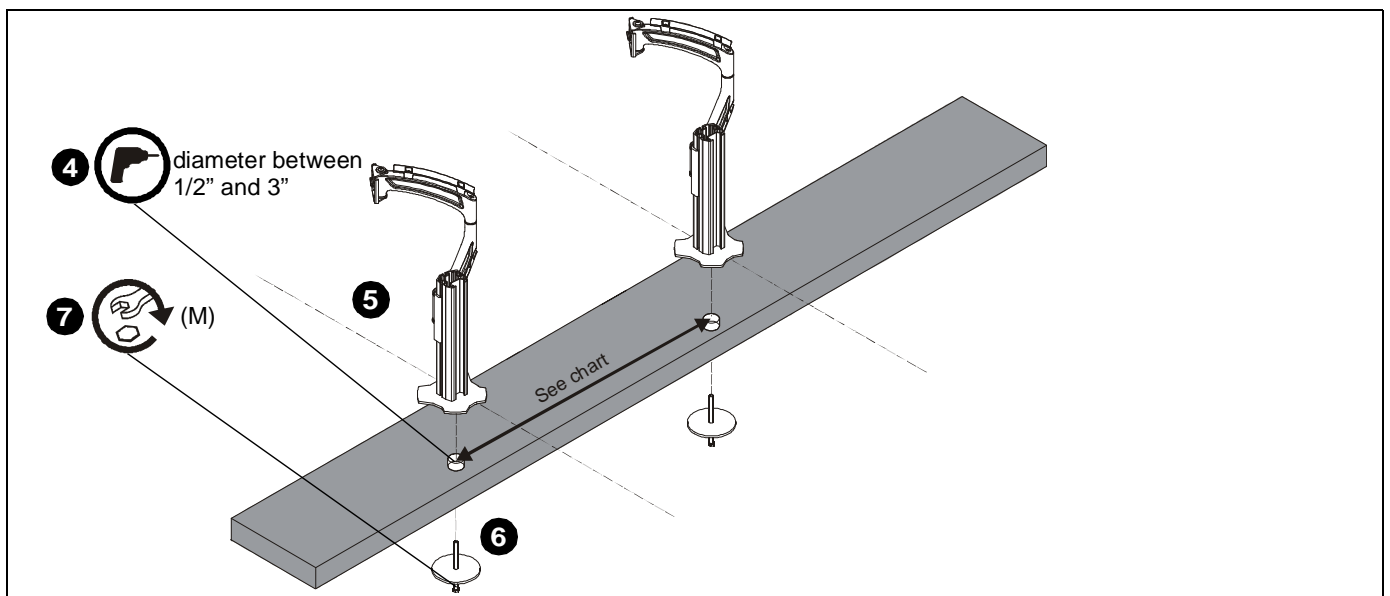

Figure 2
IMPORTANT ! : Mounts must be installed parallel to each other on the desk. (See Figure 2)
4. If a hole doesn't already exist, drill a hole in desk with a diameter between 1/2" and 3" at desired mounting location. (See Figure 2)
5. Position mount on desk so that center hole of grommet plate (N) is centered over grommet hole. (See Figure 2)
6. Insert grommet screw (M) through grommet hole and thread into center hole of grommet plate (N). (See Figure 2)
7. Tighten grommet screw (M) until grommet base is tightened against underside of desk and mount is securely mounted to desk. (See Figure 2)